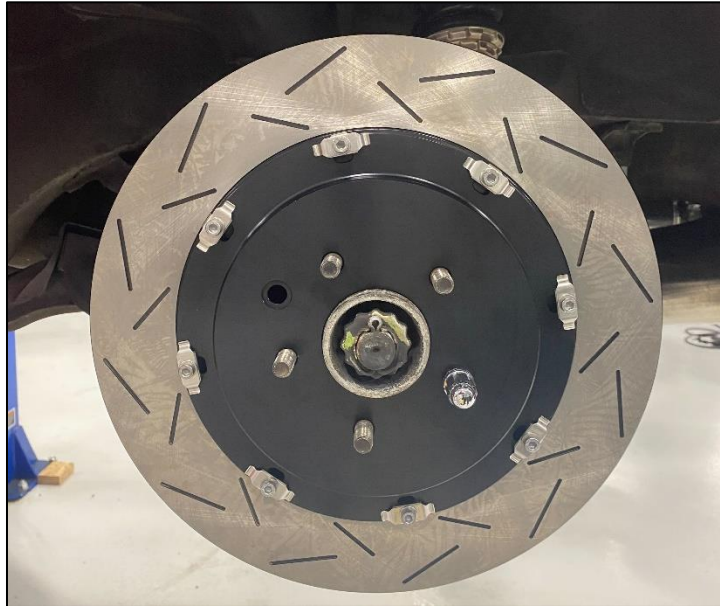

Figure 4
9. Locate (1) one Front Rotor. Install the Rotor on the correct side and secure the rotor with (1) one or (2) two lug nuts to prevent the rotor from falling. *Figure 4.*